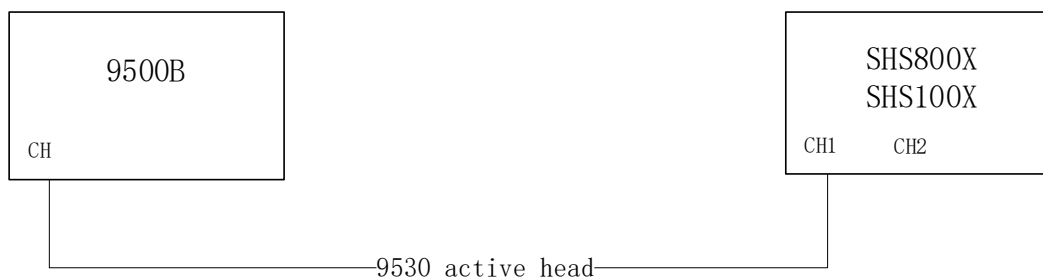

Figure 7 Connecting test instruments for DCG/Offset/Timebase/Triglevel/Impedance
**Note:** “CH” in Figure 7 represents one channel of the 9500B with a 9530 active head; It connects to any channel of the scope according to test.
2. Connect a selected channel of the oscilloscope to the 9500B with an active head as shown in Figure 7.